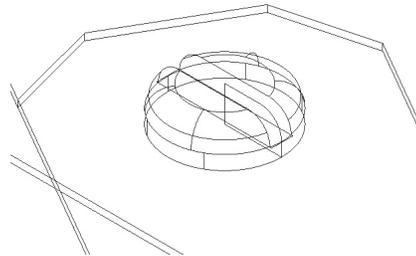

Fig. 61
Step 10. Click the screw head, **Fig. 61**.